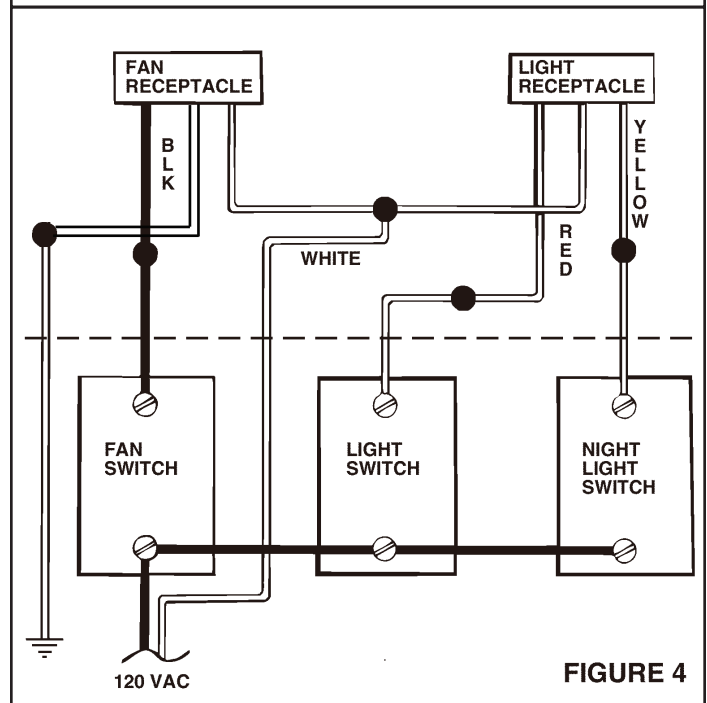

FIGURE 4
1. Run 120vAC house wiring (with ground) from wall switches to fan location. See Figure 4.
4. Refer to Figure 4. Connect white wires from the fan and light receptacles to white (neutral) wire from the supply. Connect black wire to wire from fan switch. Connect red wire to wire from light switch. Connect yellow wire to wire from night light switch.